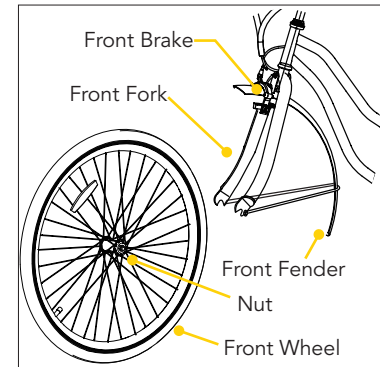

Fig. 2
- Step 4.** Hold the nut on one side and tighten the nut on the other side of the wheel onto the fork. (Fig. 2)